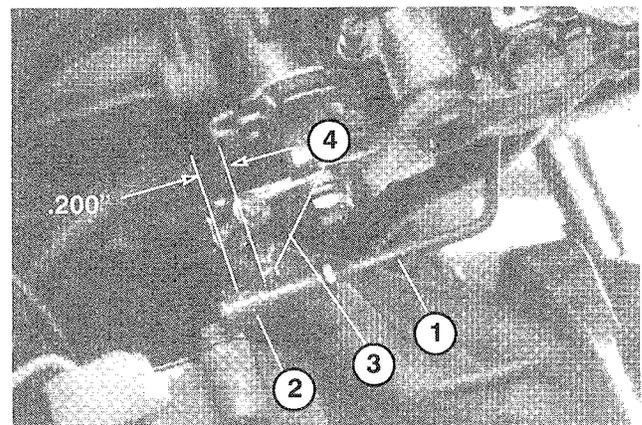

Figure 42
2. Rotate governor input lever clockwise to put a light tension load on the governor spring. Hold carburetor throttle against wide open throttle stop and adjust the ball joint on throttle rod to allow the ball joint socket to travel past the carburetor throttle stud by $.200'' \pm .031''$ (Fig. 42). Tighten locknuts on throttle rod. Ball joints must move freely through full travel.